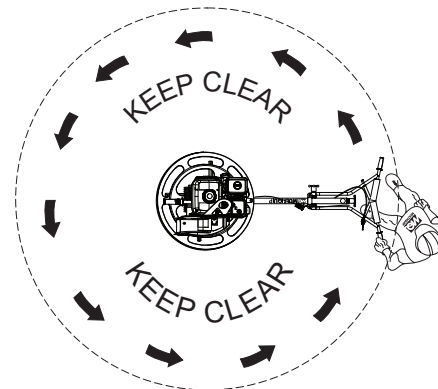

Figure 34. Centrifugal Safety Stop Switch Test
4. Stand behind the handle in the operator's position (Figure 34) and spin the handle to the right, simulating a runaway condition. Centrifugal force should throw the safety switch outward to the **OFF** position, thus shutting off the engine.